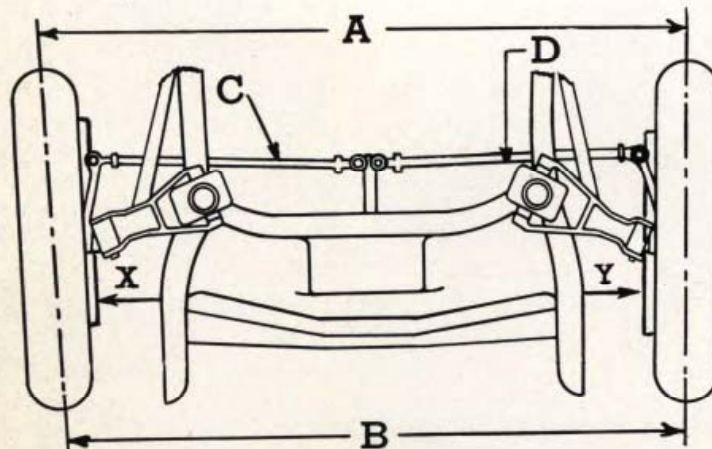

Fig. 28—Toe-in is Correct when Distance "B" is  $\frac{1}{32}$ " to  $\frac{1}{8}$ " Shorter than "A"
1. Inflate all tires to recommended pressure. Adjust front wheel bearings. Center the steering worm on "high spot," steering crank on center line of car and front wheels straight ahead, before measuring. The adjustable connecting rod (drag link) permits exact centering of the steering crank. Dimension "X," Fig. 28, from brake backing plate to frame at first rivet back of bumper should be same as "Y" on opposite side. If they differ more than  $\frac{1}{8}$  inch, lengthen cross tube on short side until both wheels are centered.